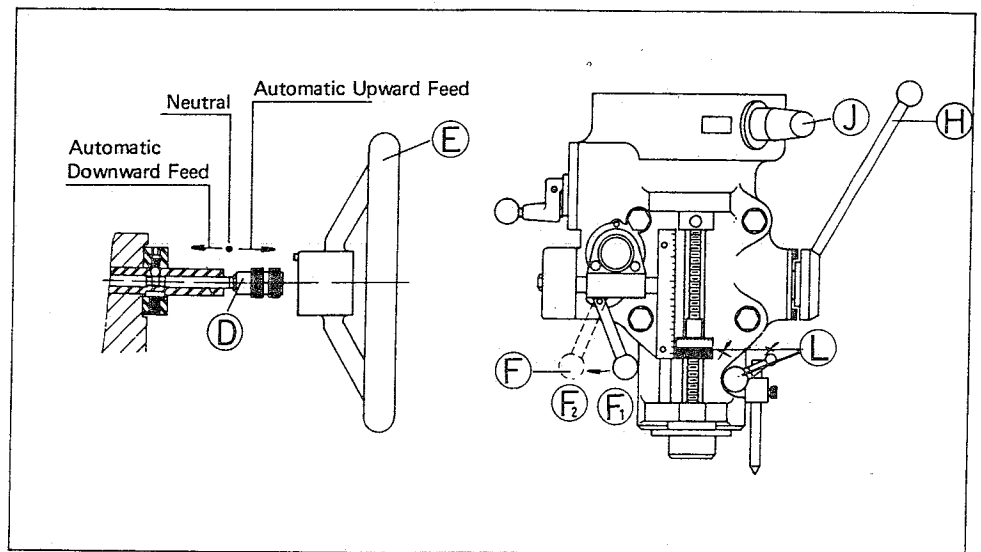

Fig. 13
- (1) The manual feed lever is installed on the right side of headstock (Figure 13, H). The spindle will travel vertically when the lever is turned. There are 12 positions to be chosen. An operator can freely take out the lever and install it again at the position deemed proper and fit.
Note: In manual feed, the feed control handle (F) must be placed at position (F1) as shown in (Fig.13).
(2) Manual Micromotion Feed:
To effectuate the manual micromotion feed, the powerfeed transmission engagement crank (J) (Fig.13) shall be placed at "OUT" position, and feed reverse knob (D) at the neutral position.